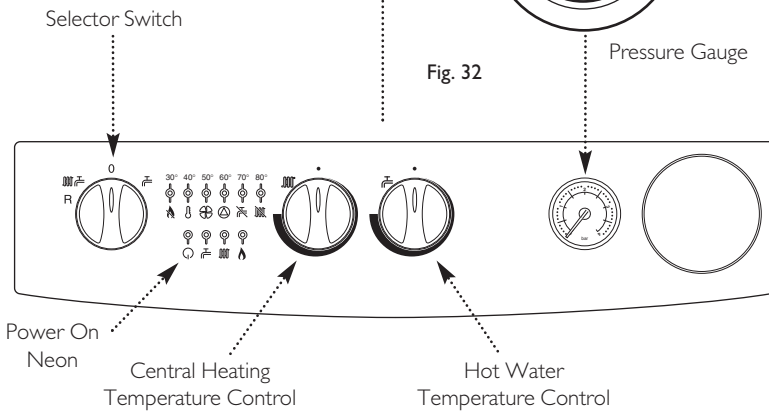

Fig. 33
10. If at any time during commissioning it is required to terminate a particular cycle, e.g. the pump overrun period, turn the selector to the OFF position and then back to either (R) or (OFF) (Fig. 33).
3. Slacken the pressure test point sealing screw on the gas valve and connect a pressure gauge (Fig. 33).